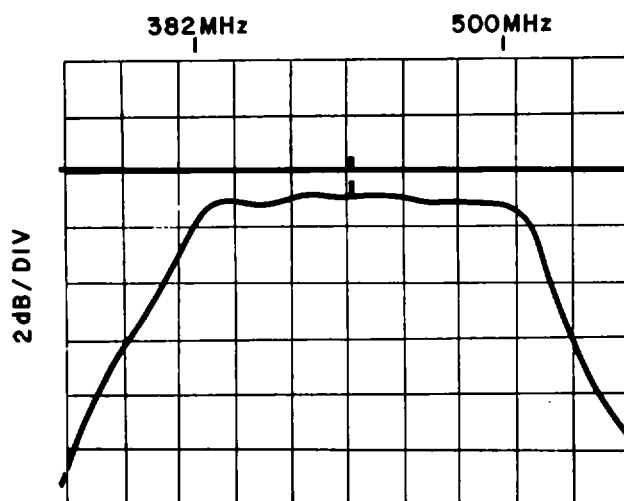

Figure 4-12A. 382-500 MHz Preselector, Typical Response
7. Refer to **Figures 4-12A through 4-12D** through for the typical responses for each of the High-Band Preselectors.